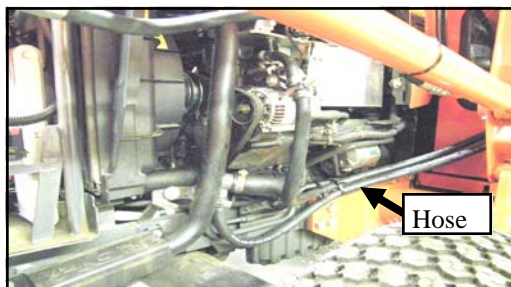

FIG. 2.6
- 2.5 Run the supplied heater hose from the T fitting along the side of the engine compartment and through one of the holes in the cowl, cut to length and attach to heater and T fitting with small hose clamps. Reference figure 2.6.
- 2.6 Per figure 2.6, use the remaining hose to run from the sending unit adaptor to the heater as shown and attach with small hose clamps. Secure hoses away from sharp or hot objects with large wire ties provided.